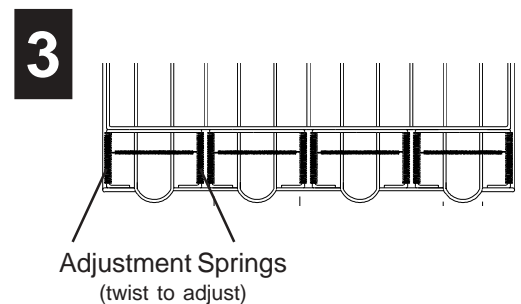

Figure 3
7. Load a full sleeve of cups into the first section and adjust for proper fit. To adjust for cup size locate the two black vertical adjustment springs on either side of the unit (see Figure 3).